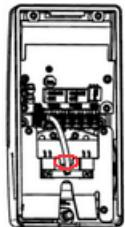

Figure 5: Heating element jumpers
6. **If the heating element should not be used**, remove the two jumpers from the heating element; see in Figure 5 where they are located. In case the heating element should be used in the future, let instead the jumpers be on the heating element but put jumper 1 on pins 2 and 3 and jumper 2 on pins 4 and 5. See section 3.3 for more information about the pins and the entire heating element.